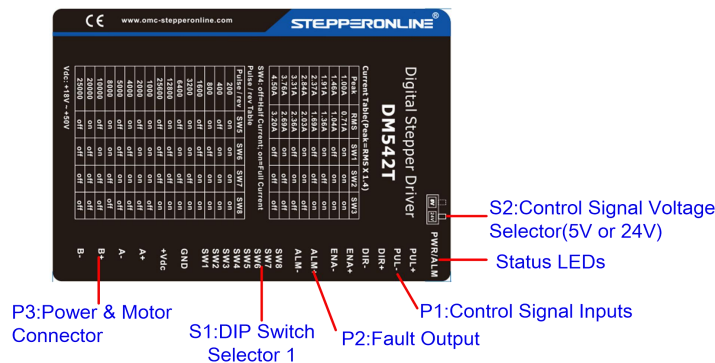

Figure 2 Connectors, DIP switches, and LED locations
PUL+	Pulse and Direction Connection: (1) Optically isolated, high level 4.5-5V or 24V, low voltage 0-0.5V (2) Maximum 200 KHz input frequency (3) The width of PUL signal is at least 2.5µs, duty cycle is recommended 50% (4) DIR signal requires advance PUL signal minimum 5 µs in single pulse mode (5) The factory setting of control signal voltage is 24V, must need to set S2 (figure 2) if it is 5V
The DM542T(V4.0) can accept differential or single-ended control signals (pulse, direction, and enable) in open-collector or PNP connection through the P1 connector (figure 2). It is recommended to add an EMI line filter between the power supply and the drive to increase noise immunity for the drive in interference environments.
- (1) ENA signal is no-connected as default;
- (2) Control signal amplitude is 24 V as default. If it is 12 V, please set the S2 (Figure 2) selector switch to 5 V first, then connect 1KΩ resistor; If it is 5V, please set the S2 to 5V.
The second 1-bit selector is located on the top (S2 in figure 2), used to configure the voltage of control signals. For the safety of optically coupled, the factory setting is 24V, which no need to connect 2K resistors like the old drives, making it easier to use. When the voltage of the control signal is 5V, the S2 must be set to 5V, otherwise, the motor won't work.